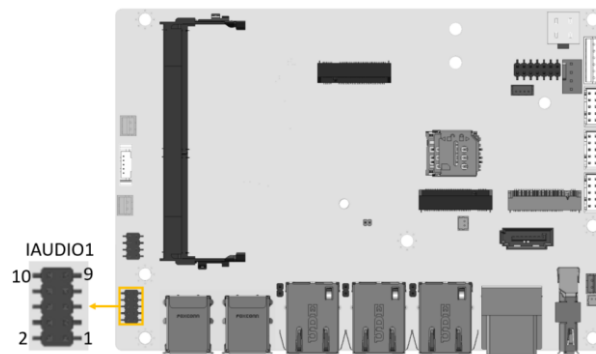

Figure 3-33: Audio Connector Location
- CN Location:** See **Figure 3-33**